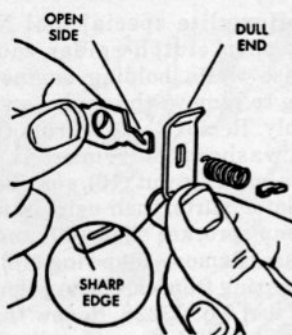

Fig. HL229-H Fairbanks-Morse starter friction shoe assembly is disassembled, be sure to reassemble as shown.
Fig. HL227—Fairbanks-Morse counter-clockwise rotation starter similar to that used on model ZIP. Refer to Fig. HL229, for assembly of friction shoe assembly (8) if unit has been disassembled. Note direction of sharp edge on shoes when reassembling starter. Refer to Fig. HL228 for legend.
Fig. HL228—Exploded view of Fairbanks-Morse starter used on WIZ series and model Super 77. Fig. HL229 shows proper method of assembling friction shoe assembly if it has been disassembled for some reason; individual parts of friction shoe assembly are not available. Note direction for sharp edges of shoes when reassembling starter.